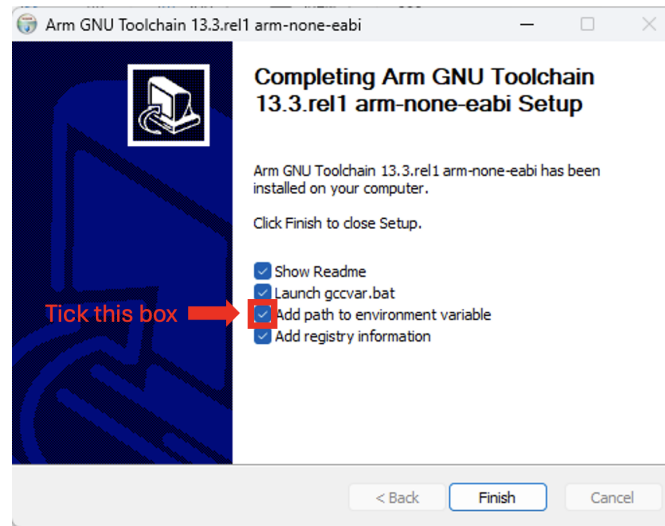

Figure 1: The GNU Toolchain installation wizard.
- For Windows: Download and use `arm-gnu-toolchain-13.3.rel1-mingw-w64-i686-arm-none-eabi.exe`. You can add the installation directory to the `PATH` environment variable at the end of the installation wizard (See Figure 1).